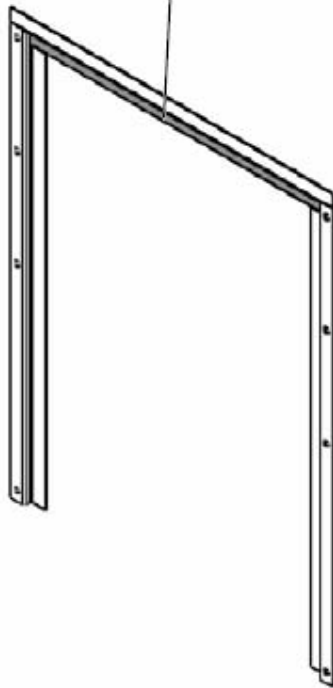

Figure 5-57. Emergency Exit Kit Installation
1. Attach rubber profile #028 to the edge of the frame #968 as shown in Figure 5-57.